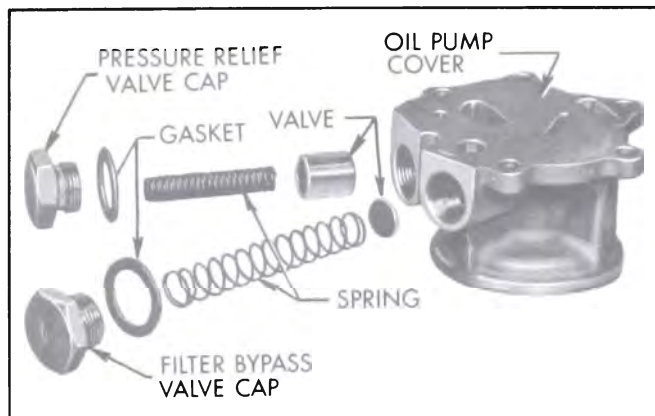

Figure 2-65—Oil Pump Cover Exploded View
2. Remove the oil pressure relief valve cap, spring and valve. See Figure 2-65. Remove the oil filter by-pass valve cap, spring, and valve.